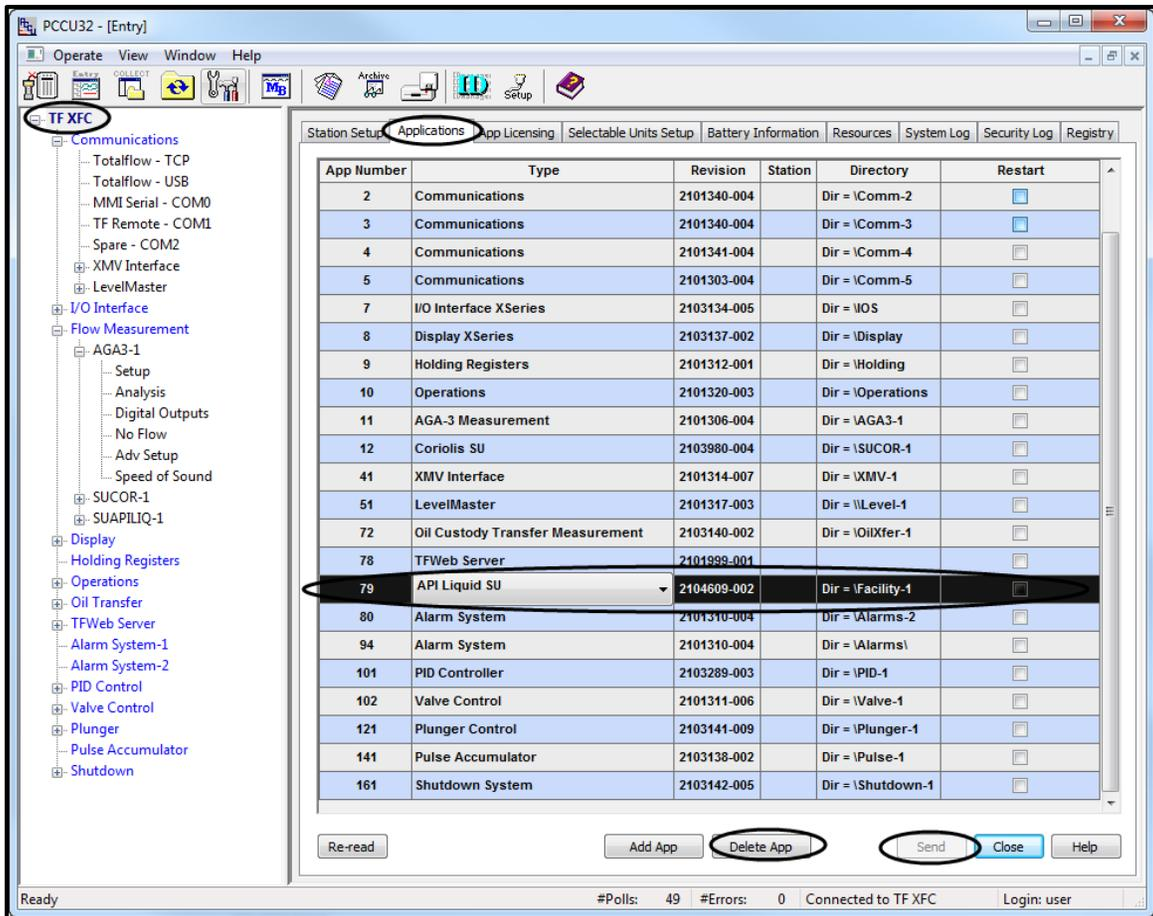

Figure 6: System Applications Tab Screen
6. In PCCU entry mode, go to the "Applications" tab under the top tree node (Figure 6), delete all phase 0 liquid tube application(s) and then "Send".